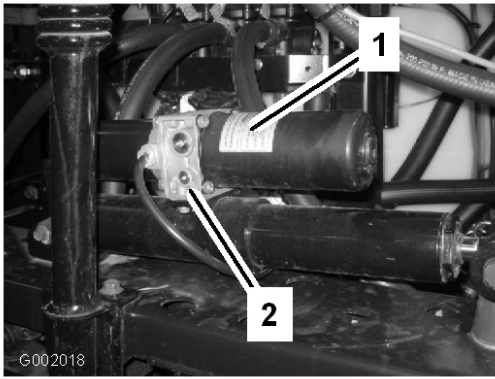

Figure 20
1. Locate the manual relief valve on the actuator for each boom. The manual relief valve is the smaller valve and is only on one side of the actuator body (Figure 20).